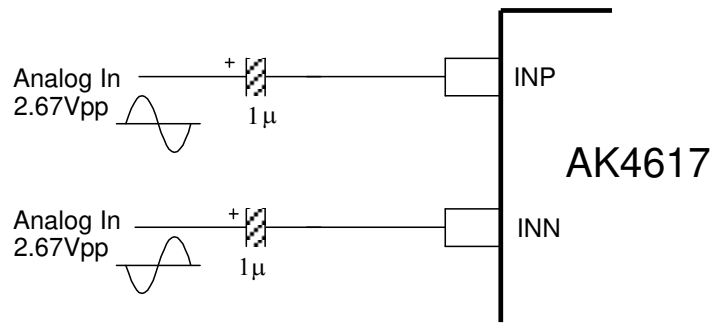
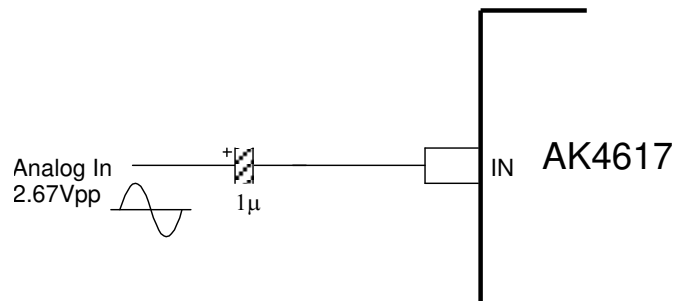

Figure 55. Input Buffer Circuit Example 2 (AC coupled differential input)
Figure 56. Input Buffer Circuit Example 3 (AC coupled single-ended input)
*2: Refer to Figure 55 and Figure 56.